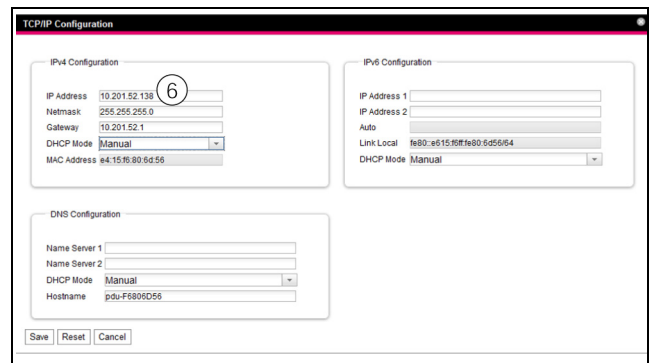

Fig. 36: Customise the TCP/IP settings
- In the **TCP/IP Configuration** window, change the device's IP address in the **IPv4 Configuration** group box to an address permitted in the network (fig. 36, item 6).